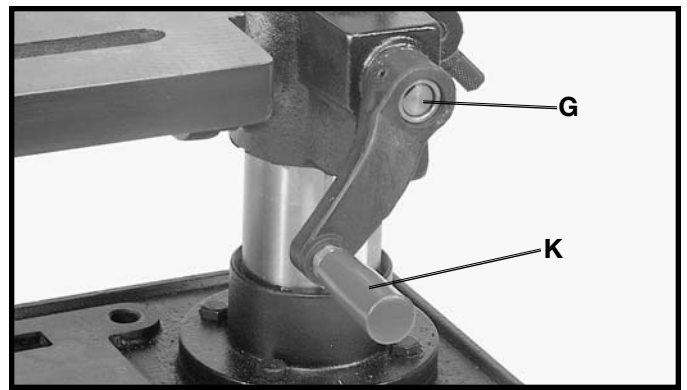

Fig. 13
9. Figure 13, illustrates the table raising and lowering handle (K) assembled to worm gear shaft (G).